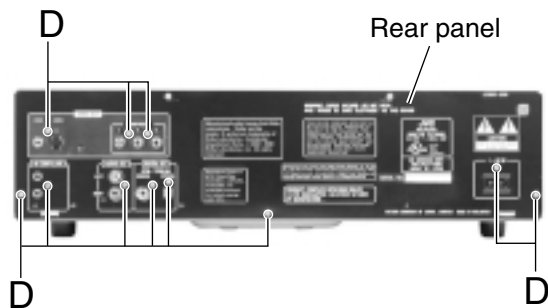

Fig.6
■ **Removing the rear panel (See Fig.6)**